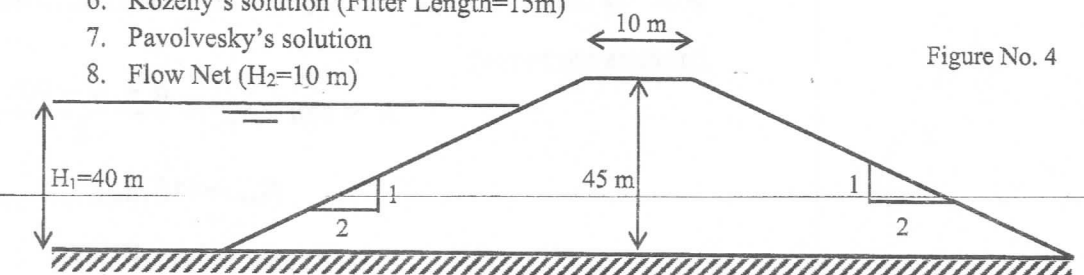

Figure No. 4
B. Determine the seepage discharge through the following earth dam ($K = 5 \times 10^{-4}$ m³/min) shown in Figure No.4, consider the following methods: (14 Marks)